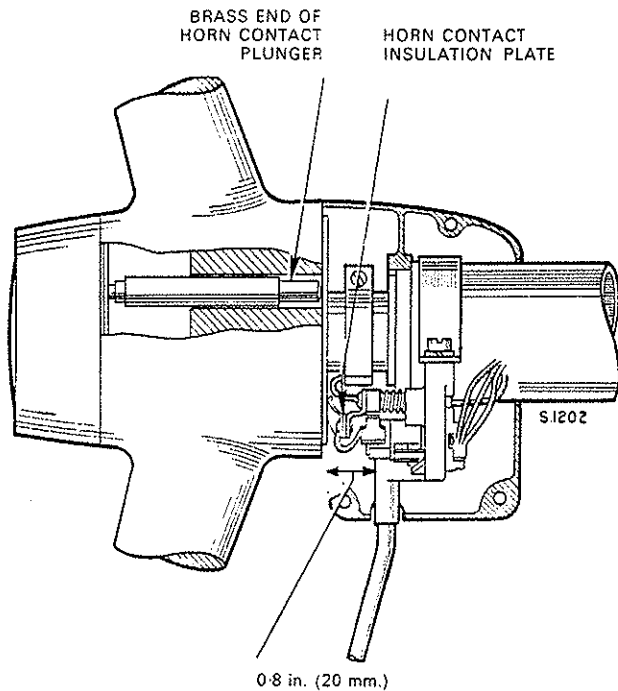

Fig. N.37. Location of direction indicator switch (also shown horn push contact plunger)
1. Replace the contact plunger with the brass end facing downwards (see Fig. N.37).
2. Position the switch so that the flat on the switch lever body is 0.8 in. (20 mm.) from the horn contact plate (see Fig. N.37).